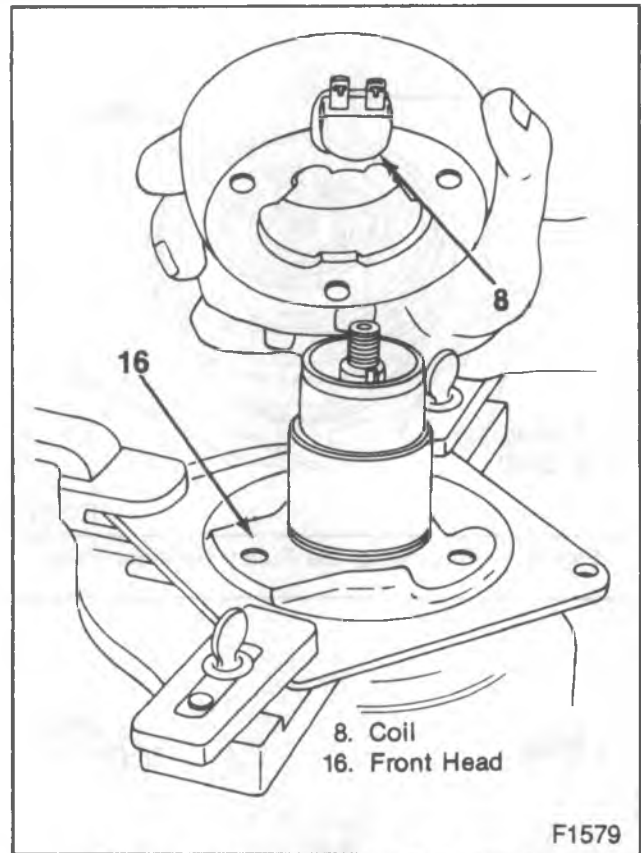

Figure 12—Installing the Coil Housing
2. Clutch coil (8) to the front head (16) (figure 12).
- Align the coil and housing assembly on the compressor front head (16) so that the electrical terminals line up the marks scribed on the compressor.
- Align the coil locator projections on the coil housing with the holes in the front head (16).
3. Coil and housing retainer ring (7) with J 6435.